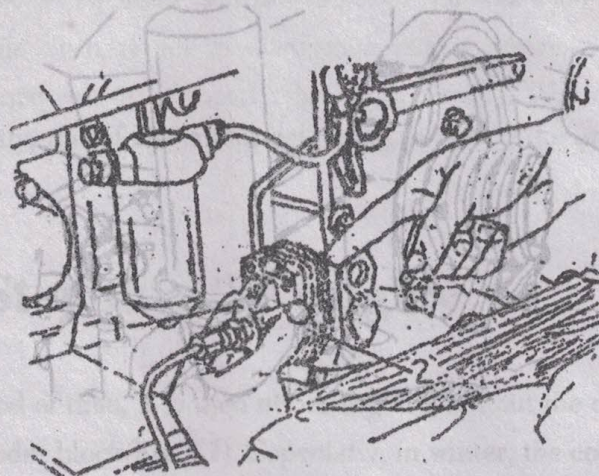

Fig. 15 Adjusting the fuel injection timing by means of increasing or decreasing the number of shims
- (1) Shut of the fuel cock of the low pressure fuel pipe.
- (2) Remove the inspection hole cover on the gear casing, and set the speed-control lever knob at the middle position.
- (3) Disconnect the fuel inlet pipe from the injection pump.
- (4) Screw off the pump fixing nuts, and take off the pump.
- (5) Increase or decrease the number of shims between the pump flange and the mounting surface of the gear casing, according to whether the injection timing is to be delayed or advanced (Fig. 15).